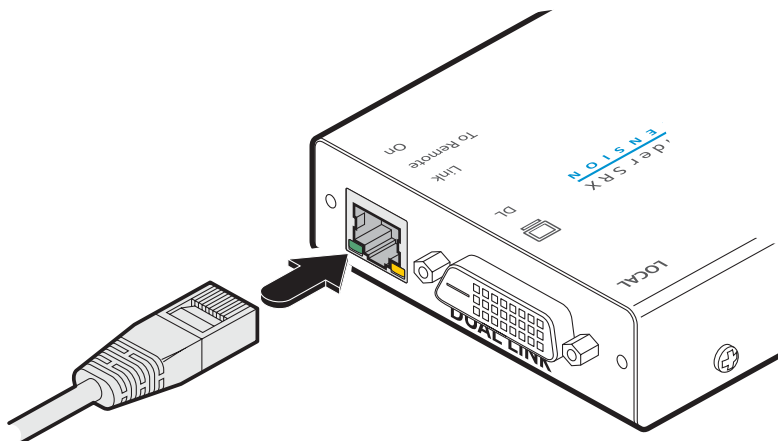

Figure 3-5. Attaching the CATx link cable
- 1 Connect the link cable (see page 2 for cable advice) to the local module socket labeled **TO REMOTE** as shown in Figure 3-5: